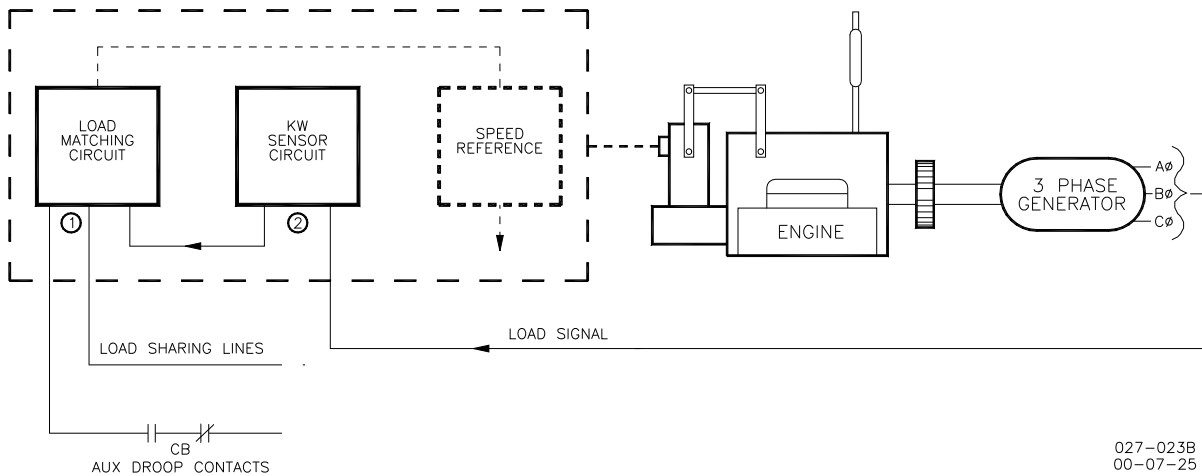

Figure 6-4. Paralleling System
There are two basic methods used for paralleling: droop, where speed decreases with load increase, and isochronous, where speed remains constant with load increase. The paralleling system shown in Figure 6-4 consists of a load matching circuit (1), and kW sensor circuitry(2).